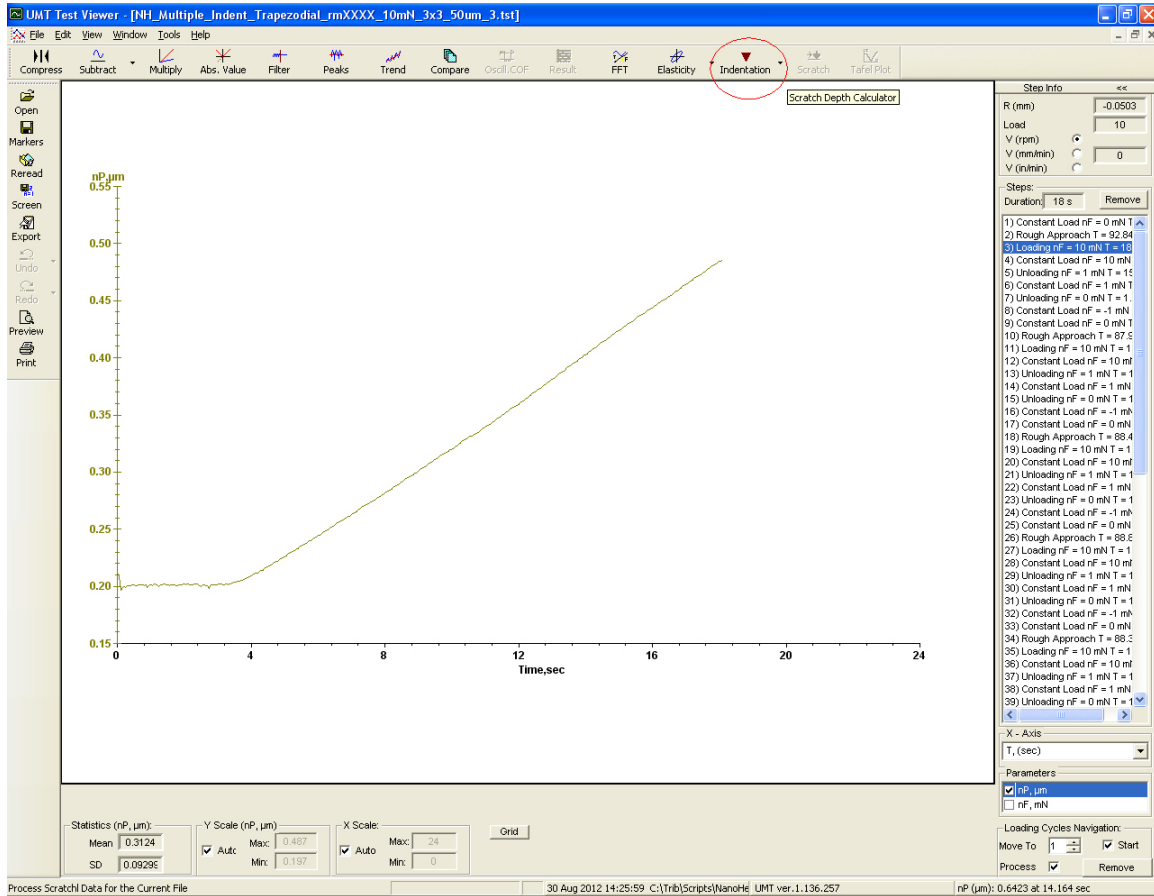

Figure 24: Indentation Process Button.
- 2) Push the indentation process button as shown in Figure 24.